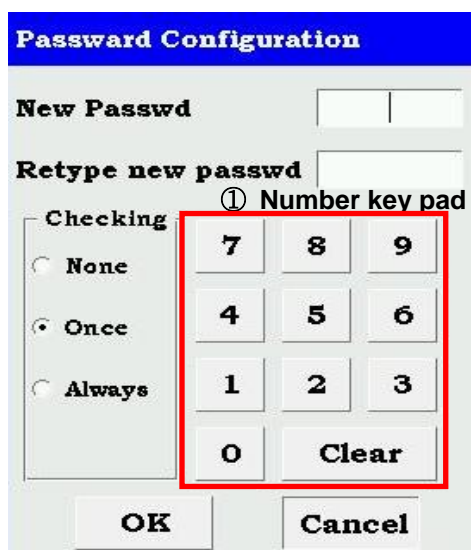

Figure 2-8 Password configurations detail
These functions for prohibit someone who accesses another user. Type the new password and retype new password using **NUM** keypad '①' like figure 2-8 and then press enter for complete changing.